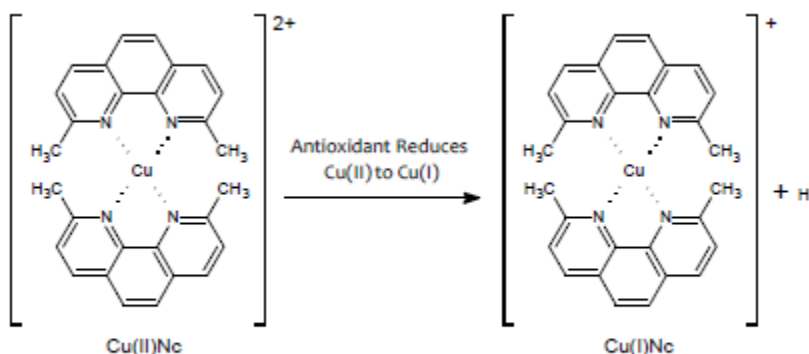

Figure 1. Reduction of the neocuproine/copper (II) complex.
Antioxidants are plentiful in nature, designed to help preserve cells from oxidative damage due to injury or the environment. Many of these antioxidants are beneficial to humans, and are believed to be involved in preventing many diseases. Consumers have taken a great interest in their consumption of antioxidants for improved health, and the food industry has taken notice – oftentimes listing the amount on prepared, packaged foods. The Food Science Division Aqueous CUPRAC Antioxidant Assay has been designed to quantify the antioxidant levels in water-based foods and food extracts. This assay is based on the changes in absorption characteristics of the neocuproine (Nc) copper (II) complex when it is reduced by an antioxidant. The reduction potential of the sample or standard effectively converts Cu^{+2} to Cu^{+1} , thus changing the absorbance maximum, as shown in Figure 1. This reduced copper complex gives an absorption maximum at 450 nm. The calibration curve is generated using a known concentration of Trolox, with the data being expressed as μM Trolox equivalents.